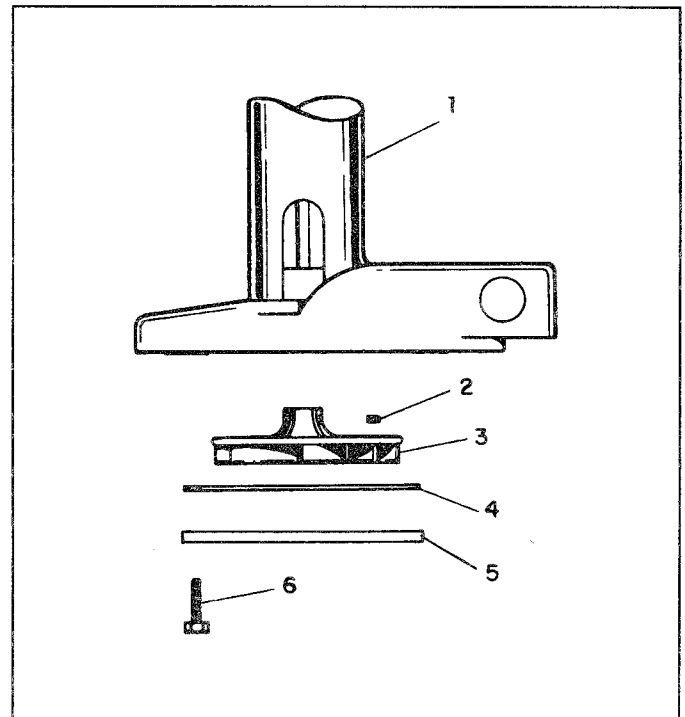

Figure 14. Single Suction Impellers
2. Single Suction Impellers (Figure 14):
- Remove bolts (6), volute cover plate (5), and gasket (4).
- Align hole in upper casting (1) with set screw (2). Loosen set screw and remove old impeller (3).
- Slip new impeller (3) with Teflon washer on shaft with hub towards the motor until the impeller touches casting (1), then back off slightly so there is no contact between casting and impeller.
- Align set screw (2) with hole in upper casting (1) and tighten set screw.
- Replace gasket (4) and volute cover plate (5). Secure with bolts (6).